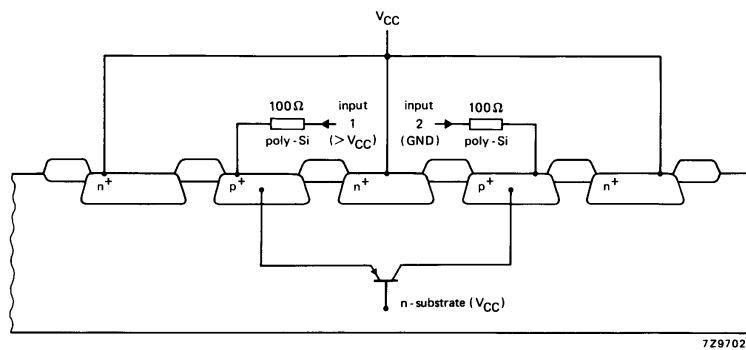
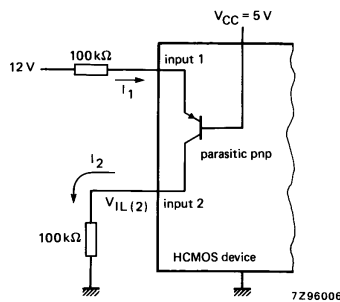

Fig.30 Cross-section of the input protection of an HCMOS device showing the parasitic pnp transistor between adjacent inputs.
Fig.31 12 V-to-5 V logic-level conversion at HCMOS inputs using 100 kΩ series resistors.
Parasitic bipolar pnp transistors can be present between adjacent inputs, e.g. between an input protection diode to V_{CC} and the same diode at the adjacent input, as shown in Fig.30. If the recommended operating input voltage is exceeded, perhaps by ringing of more than 0.7 V, current into the terminal (I_1) can cause a current I_2 in the parasitic transistor and in the adjacent input (Fig.31). Because I_2 in the adjacent input has to be drained by the source driving that input, the source resistance (R) must be low. If R is not low enough, the parasitic current can lift the source voltage and cause unwanted switching.
A low α permits proper logic operation in the presence of transients and also allows HIGH-to-LOW voltage translation simply by adding series input resistors. For example, in Fig.31, 12 V system logic is converted to 5 V system logic by adding a 100 k Ω resistor in each input. Since the logic signals are delayed by 1-2 μ s, this arrangement is suitable for rather slow 12 V control logic such as that in automotive applications. When the input diodes are used as clamps for logic level translation, the total input current should be limited to 20 mA.